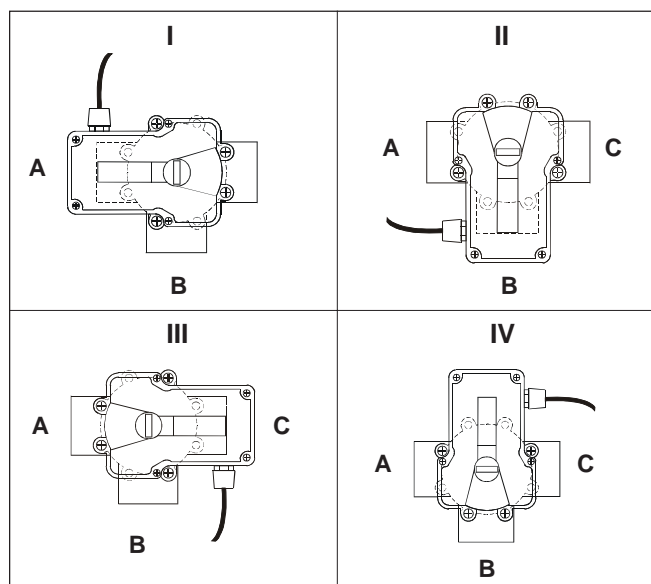
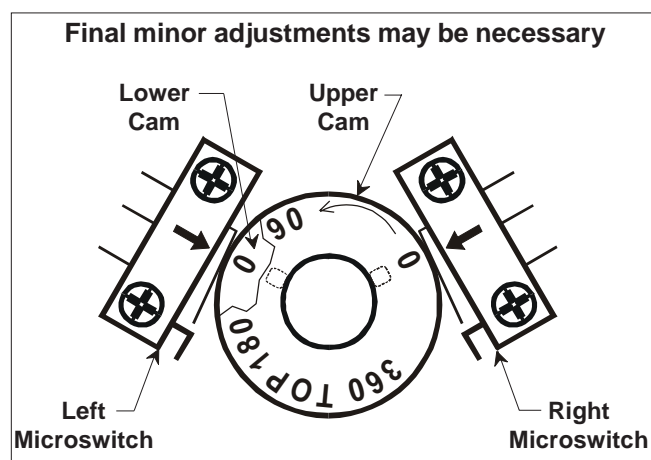

Figure 9. JVA Mounting Positions.
Figure 10. JVA Cams
Before resetting cams, note that if the valve is plumbed in Standard Plumbing position and the actuator is in Standard Mounting position there is no need for resetting the cams (see Fig. 9). If a port other than "B" is plumbed as the common port or if the actuator is mounted other than Standard Mounting, the cam setting must be changed so the actuator shaft and the valve diverter rotate properly (see Cam Setting Chart for proper settings).
3. Rotate the actuator shaft so the 0° mark on the top cam aligns with the arrow above the top microswitch (bottom cam 0° mark should also align with arrow above the bottom microswitch)(see Fig. 10). Turn OFF actuator power. Refer to the Cam Setting Chart and figure 9, locate the mounting position for the actuator you are working on (it will be either I, II, III, or IV). Next, determine what valve port is the common or inlet port (it will be either A, B, or C). Now refer to the line on the chart which coincides with your mounting position number and common port letter to determine what the cam settings should be. For example, if the actuator was mounted as in Figure 9, roman numeral I, and the common port on the valve is "A", the cam settings would be, top cam 90° and the bottom cam 180°.